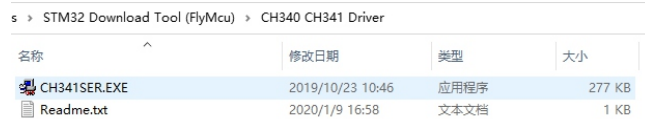

Figure 8 Double Click "CH341SER.EXE"
**Step 1:** Connect the USB communication port wire, double click the file "CH341SER.EXE" to install, as shown in **Figure 8**.